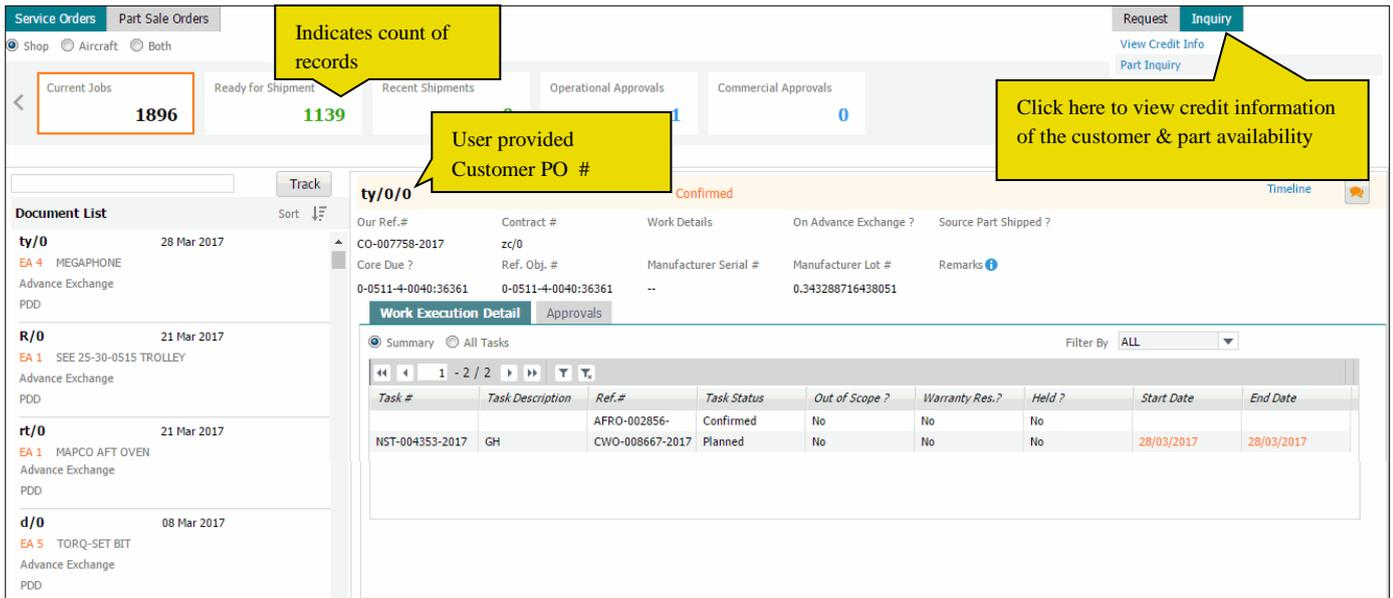

Figure 2.4 Service Orders tab
1. Select the **Service Orders** tab in the **Customer Portal** screen in the **Customer Portal** business component. The Service Orders tab page appears. See *Figure 2.4*.